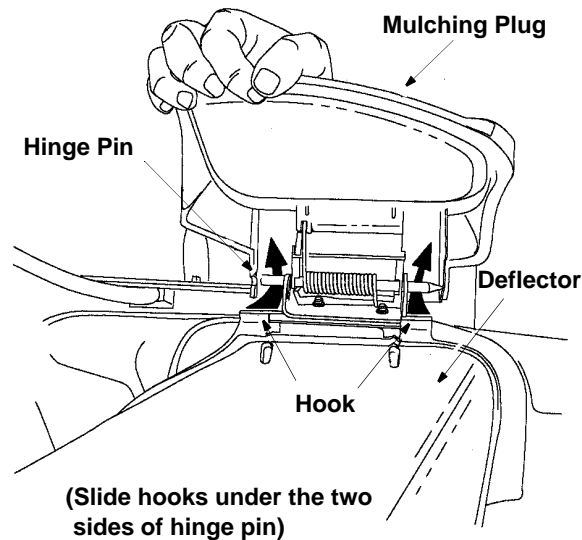

FIGURE 5
- Lift the hinged mulching plug. Slide the two hooks on the side discharge deflector under the hinge pin on the mulching plug assembly. See Figure 5. Lower the mulching plug.